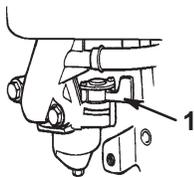

Figure 8
2. Open the fuel valve by moving the lever to the **right** (Fig. 8).